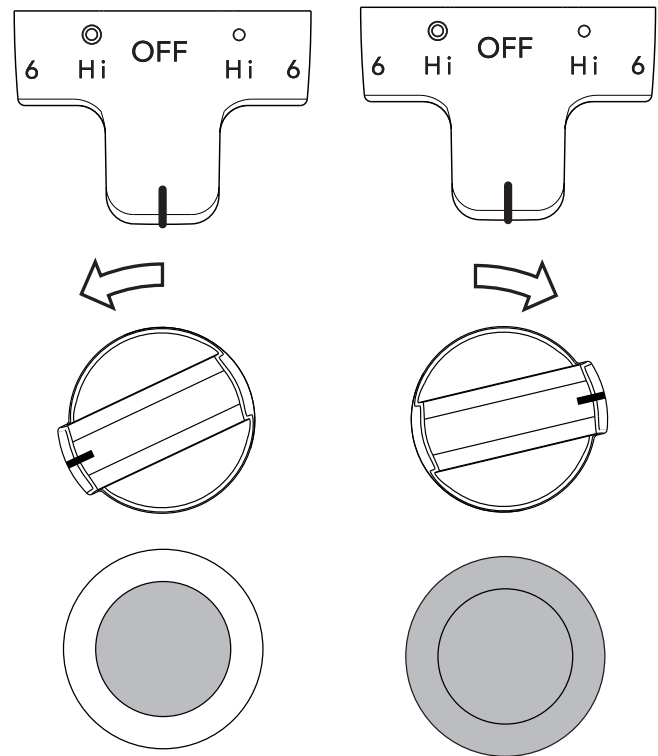

Figure 6: Single/Dual element knob settings
2. Push in and turn the surface control knob clockwise to begin heating both the inner and outer elements. If only the inner element is needed for smaller cookware, push in and turn the knob counter-clockwise (see Figure 6).